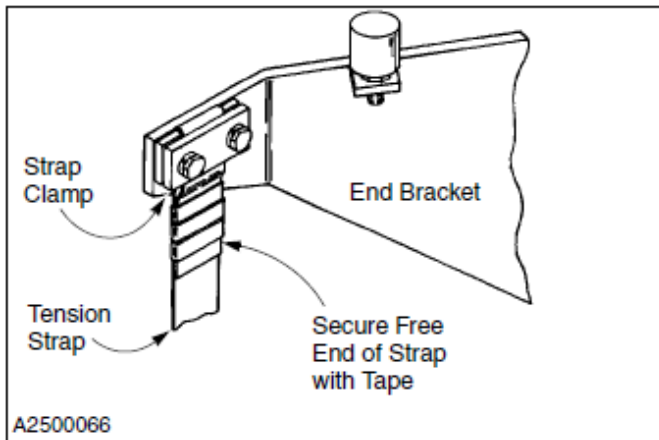

Figure 77
7. Attach the strap to the end bracket. (See Figure 77)